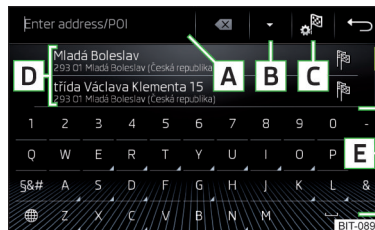
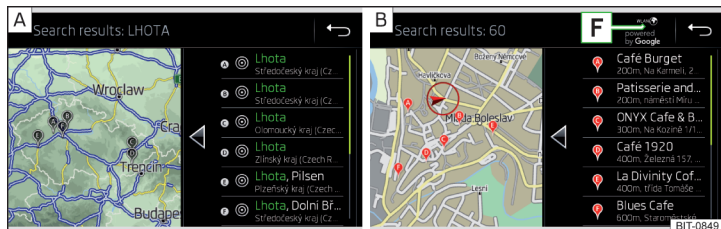

Fig. 211
Fig. 212 List of destinations visited: in the navigation data / online
### Function surfaces » Fig. 211 and » Fig. 212
A list of the destinations found is displayed in area **D** » Fig. 211.
- › **or:** Tap the **B** » Fig. 211 function surface.
- Destinations found in the navigation data » Fig. 212 - **A**.
- Destinations found online » Fig. 212 - **B**.